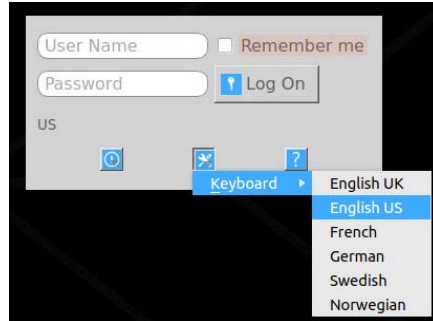

Figure 9 - Setting System Keyboard type
- ∞  **System Preferences:** This button has a drop down menu that allows the user to define system preferences for the InvisaPC Receiver. Figure 9 shows how the keyboard type can be selected.